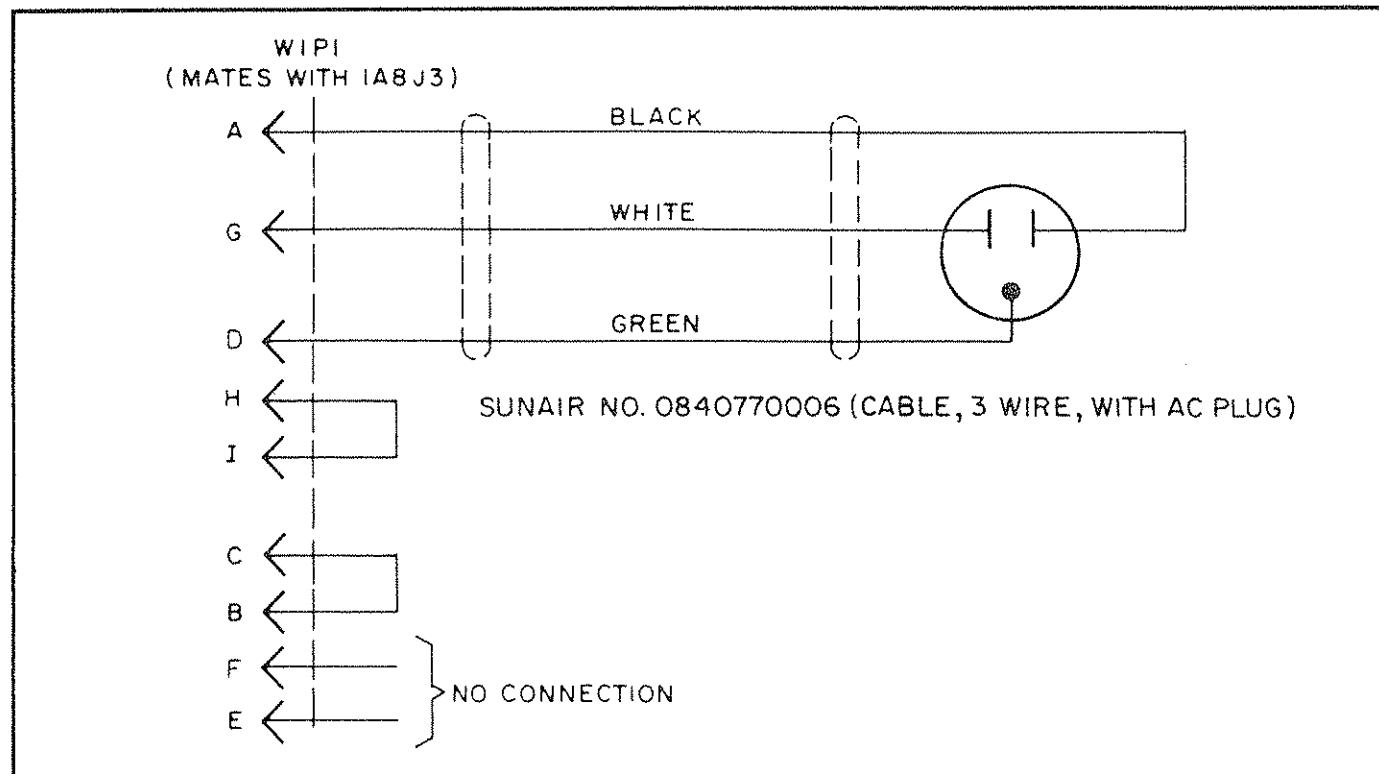
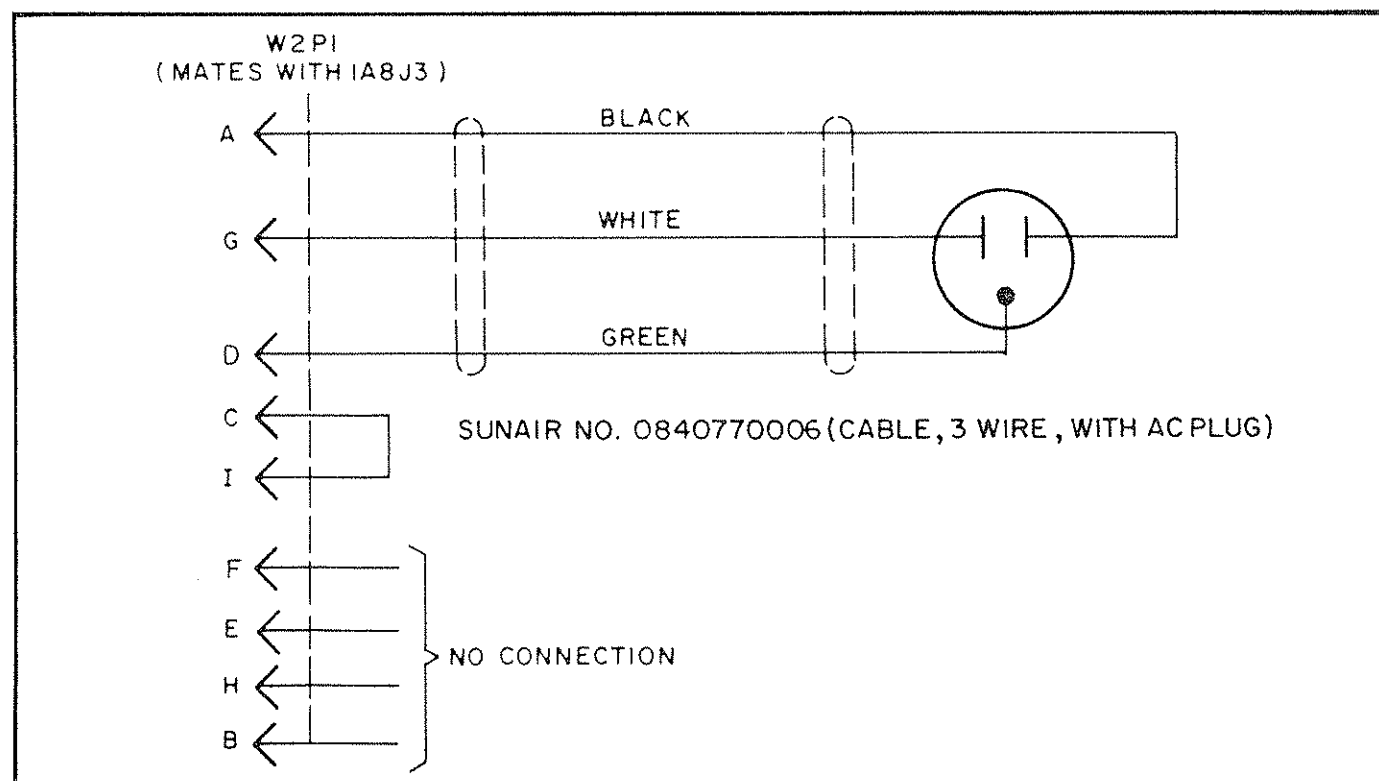

Figure 2.11 115 VAC Power Cord Schematic
Figure 2.12 230 VAC Power Cord Schematic
A.C. power cord is shipped with the radio. Figure 2.11 shows the line cord assembly wiring for 115 volt operation while Figure 2.12 shows the 230 volt wiring.